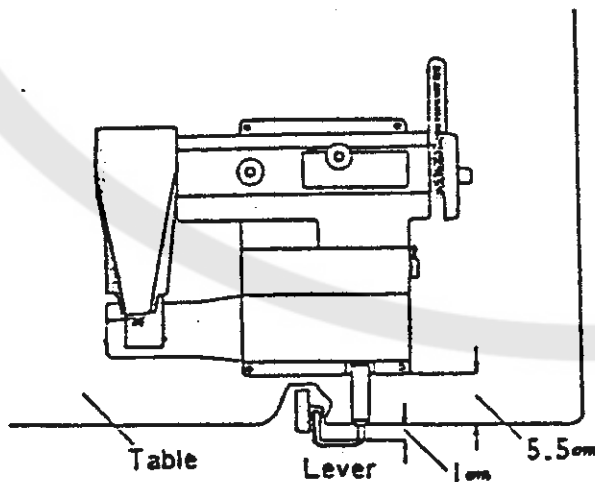

Fig. 1
2. Setting - up Machine (Figs. 1 & 2)